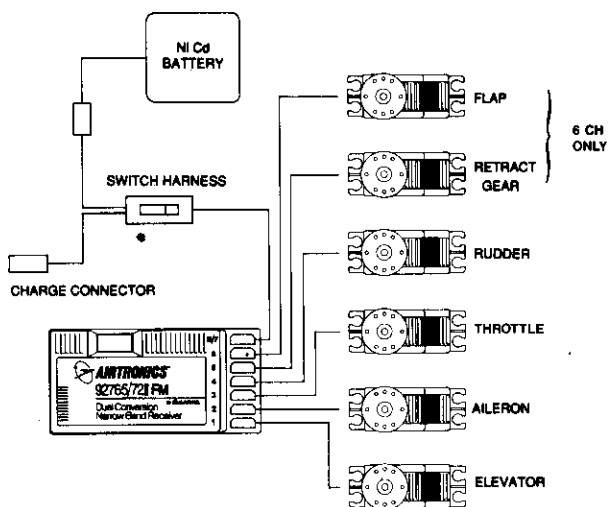
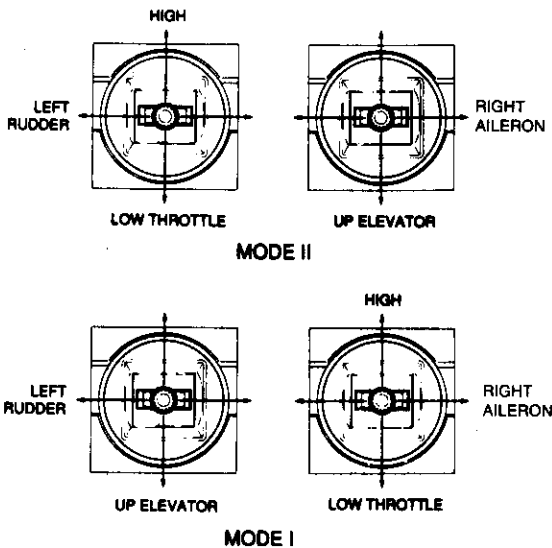

FIGURE 2
FIGURE 3
6. Figure 2 shows how to connect the components of your system together. Note the servo and switch harness plugs are inserted in the receiver so that pin #3 is towards the bottom side of the receiver. At this point, your objective is to get the system operating on your workbench. Once connected, you must then refer to the corresponding diagram for your system (Figure 3), showing the transmitter control sticks' function.